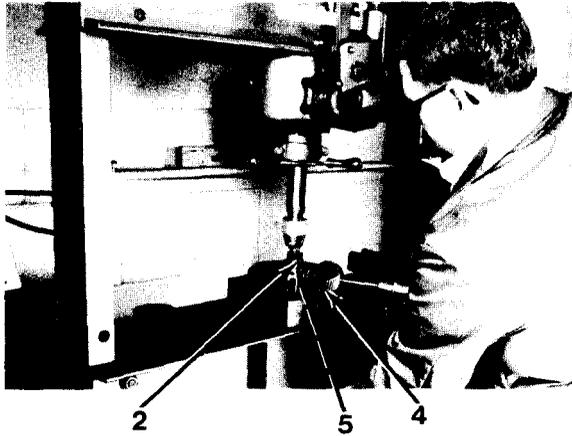
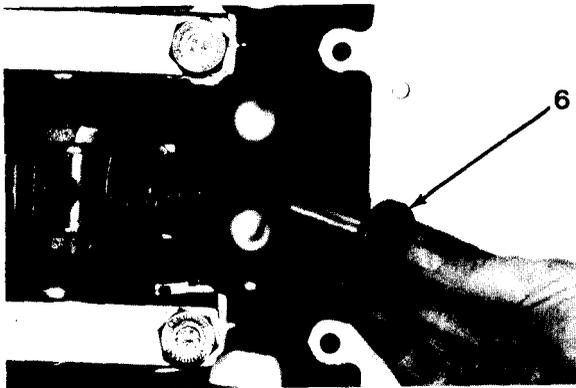

Figure 6-5
Figure 6-6
5. Using a press, remove camshaft gear (4) from camshaft (2, Figure 6-5).
6. Remove woodruff key (5) from camshaft (2).
7. Remove eight valve tappets (6, Figure 6-6) from cylinder block.